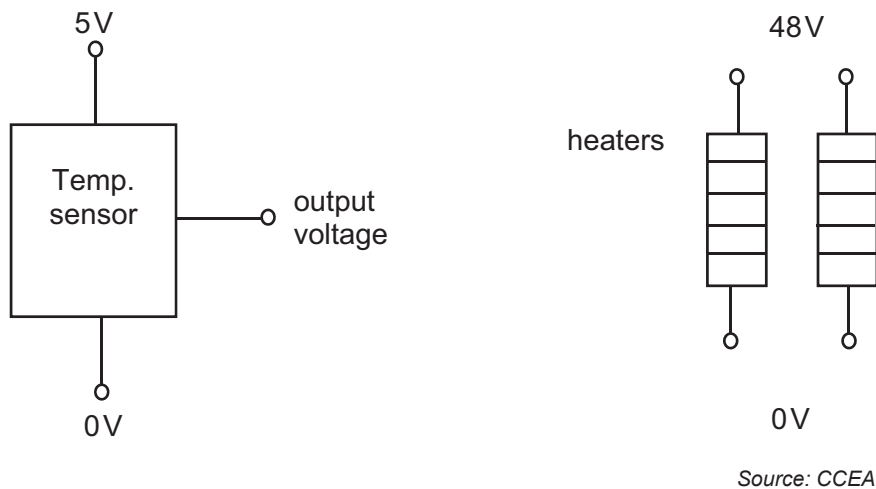

Fig. 5
- (f) A temperature sensor and two heaters are shown in **Fig. 5**. The output voltage of the sensor varies from 0 to 5 volts as the temperature ranges from 0°C to 40°C. The sensor provides an output voltage which is directly proportional to the temperature. The 48 volt heaters are to be used to heat a greenhouse as required.